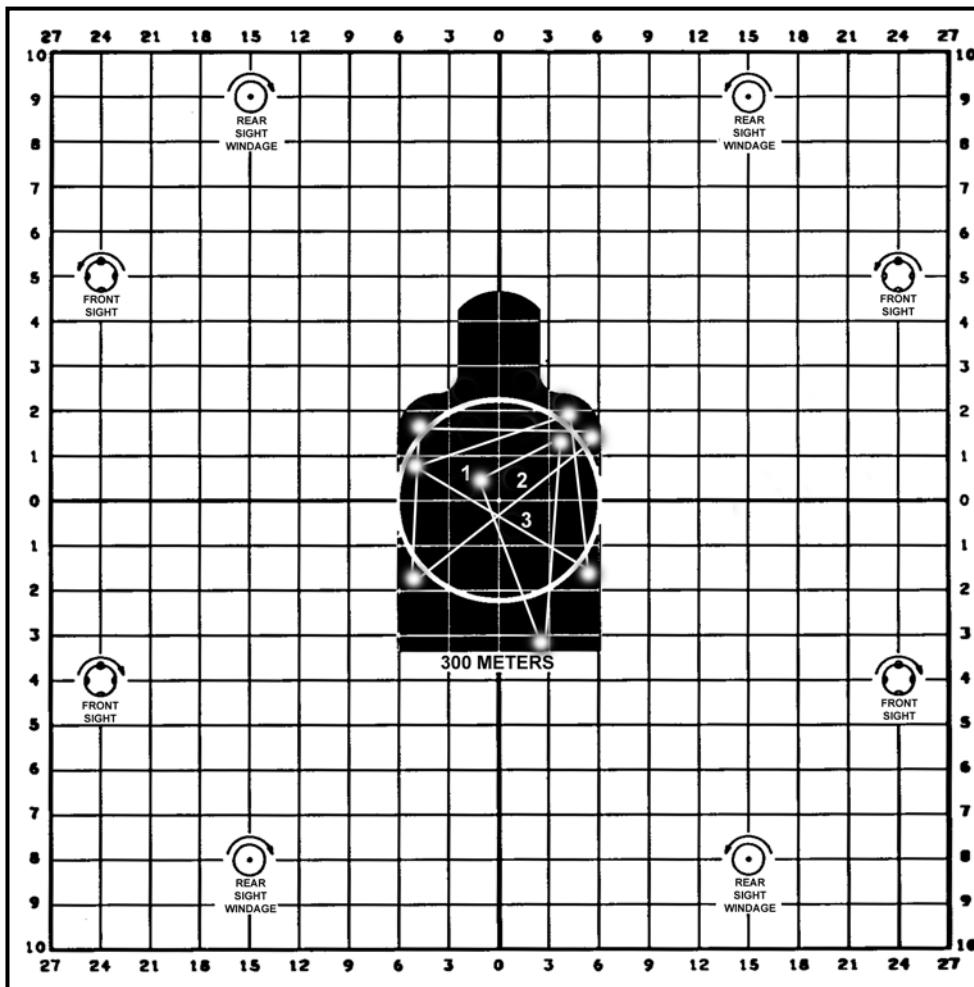

Figure 5-13. Shot groups with consistent aiming and major shooting error.
(3) **Shot Groups with Consistent Aiming and Major Shooting Error.** The groups in Figure 5-13 indicate consistent aiming, but the soldier is not applying the four fundamentals properly while firing each shot group. The firer should be assigned a coach to troubleshoot the soldier's four fundamentals in an attempt to isolate the soldier's firing errors.